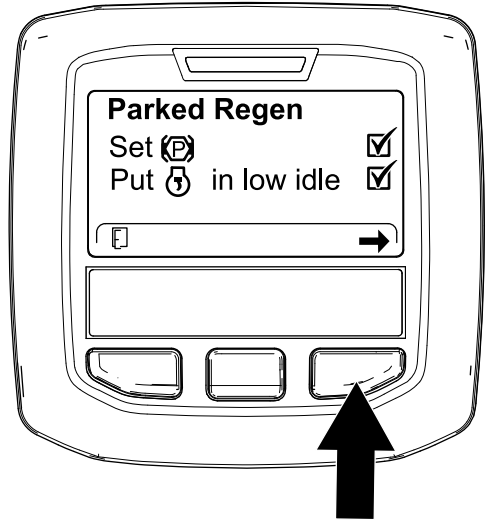

Figure 85
- At the DPF checklist screen, verify that the parking brake is engaged and that the engine speed is set to low idle (Figure 85).